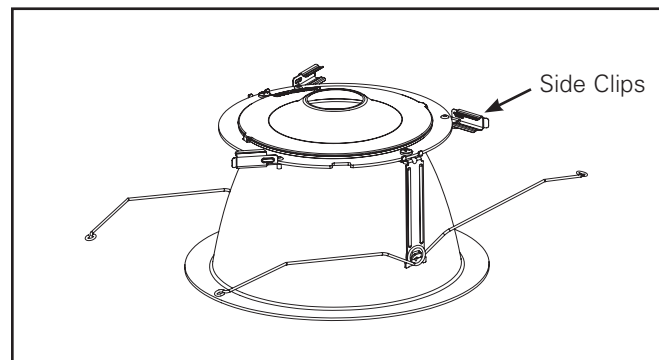

Figure 4
2. Remove trim assembly from protective packaging and rotate side clips (3) outwards. (Figure 4.).